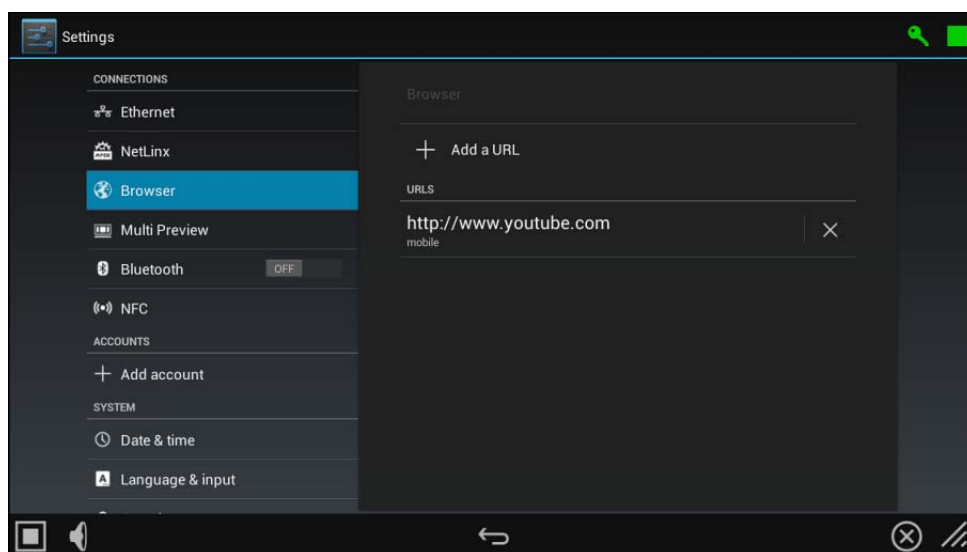
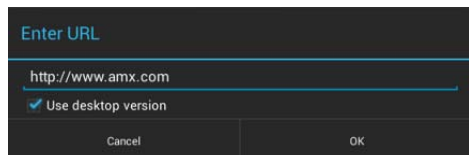
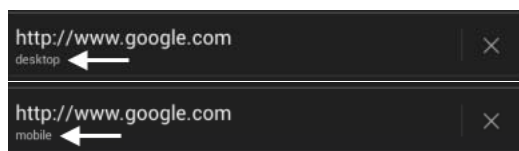

FIG. 55 Browser page
FIG. 56 Enter URL window
FIG. 57 URL list - *desktop/mobile* content
The options in the *Browser* page of the Settings menu (FIG. 55) allow you to specify the *default view mode* for specific URLs, when they are opened in a "Browser" application window. The view mode options are "desktop" and "mobile", and the default mode is "mobile".
Add a URL	Select to add a URL to the URL list. This selection opens the Enter URL window (FIG. 56). Enter the URL and de-select the Use desktop version option to request 'mobile' content for the URL. By default, this option is selected.
1. From the *Browser* page, press *Add a URL* (see FIG. 55 on page 41) to open the *Enter URL* window (FIG. 56):
To toggle the 'desktop' or 'mobile' setting for any URL in the list, simply press a URL in the list (see FIG. 55 on page 41). The current content setting is indicated beneath each URL in the list (FIG. 57):